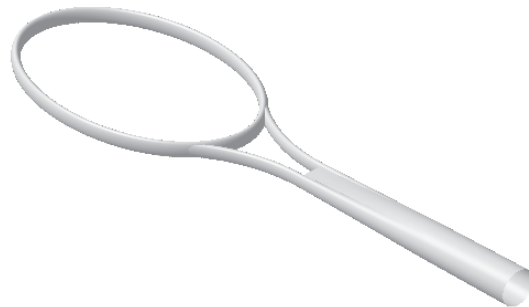

Figure 10-74 The model after creating the blended surface
7. Choose the **OK** button from the **Blend Definition** dialog box. The model, with the blended surface will be displayed, as shown in Figure 10-74.